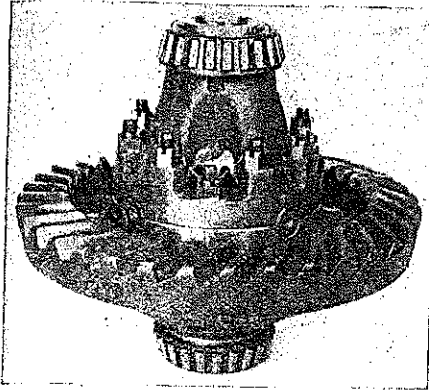

Fig. 160 If original identification marks are not clear, mark differential case halves with a punch before disassembling for correct alignment when reassembling
1. If original identification marks are not clear, mark differential case halves, Fig. 160, with a punch before disassembling